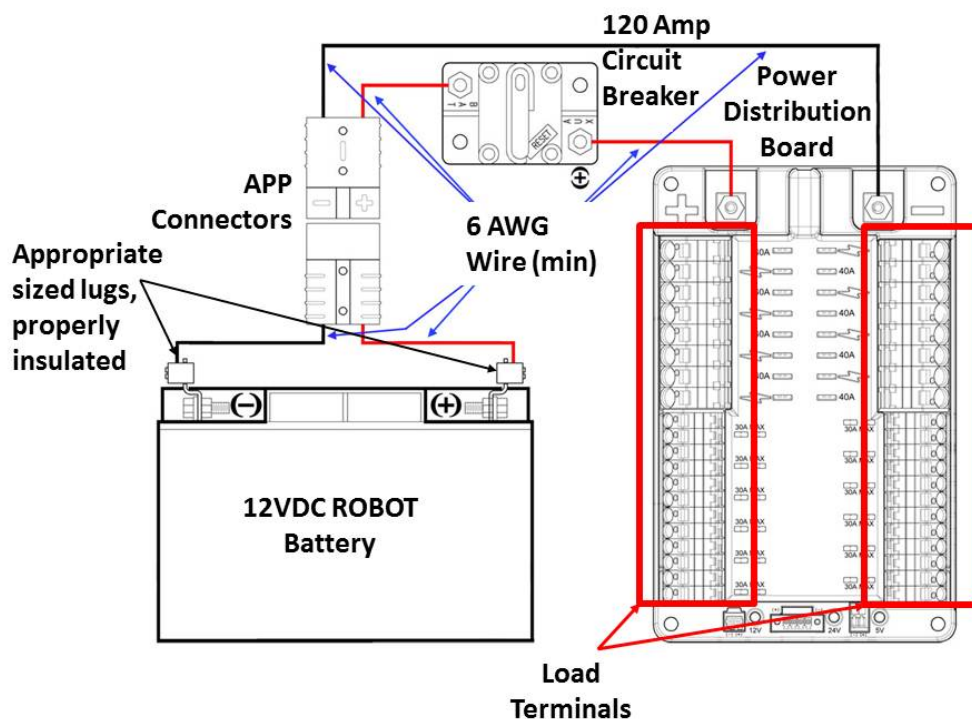

Figure 4-7: Main Power Distribution
The ROBOT battery, the main 120-amp (120A) circuit breaker (Cooper Bussman P/N: CB185-120), and the Power Distribution (PD) Board shall be connected as shown in Figure 4-7.